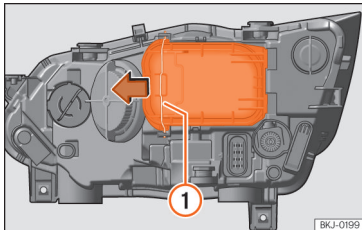

Fig. 102 In the engine compartment: remove the lid.
- Move the loop »» Fig. 102 ① in the direction of the arrow and remove the cover.